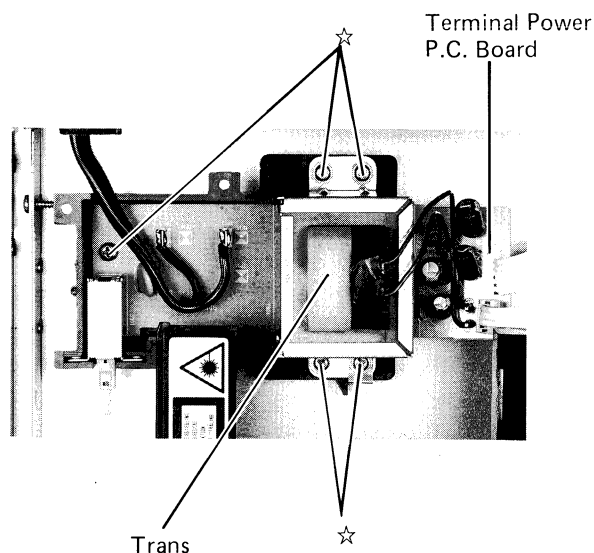

Figure 10
- (2) Remove five screws marked "☆" as shown in Figure 10.
- (3) Disconnect all wires from the P.C. Board.